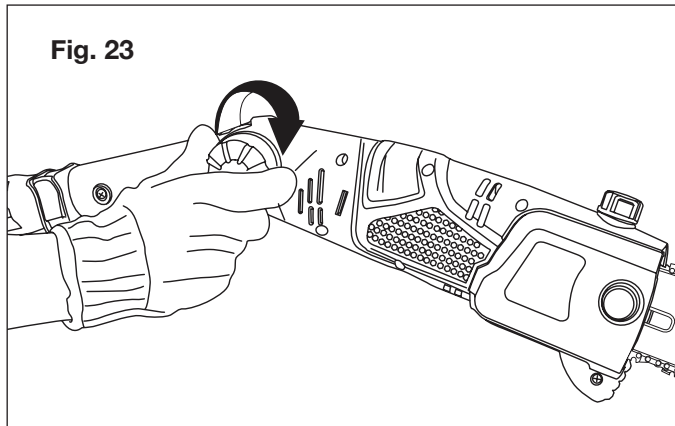

Fig. 23
4. Turn the dial clockwise to tighten and secure the head in place (Fig. 23).